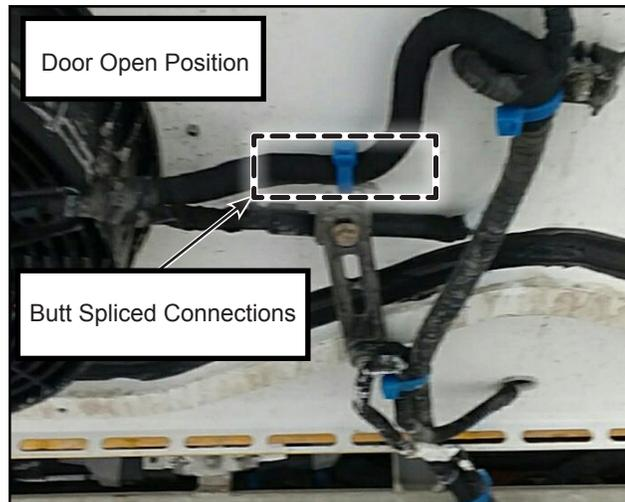

Figure 2 - Engine Fan Butt Spliced Connections
- 1.7. Open the engine compartment door and locate the engine fan butt spliced connections (see figure 2).